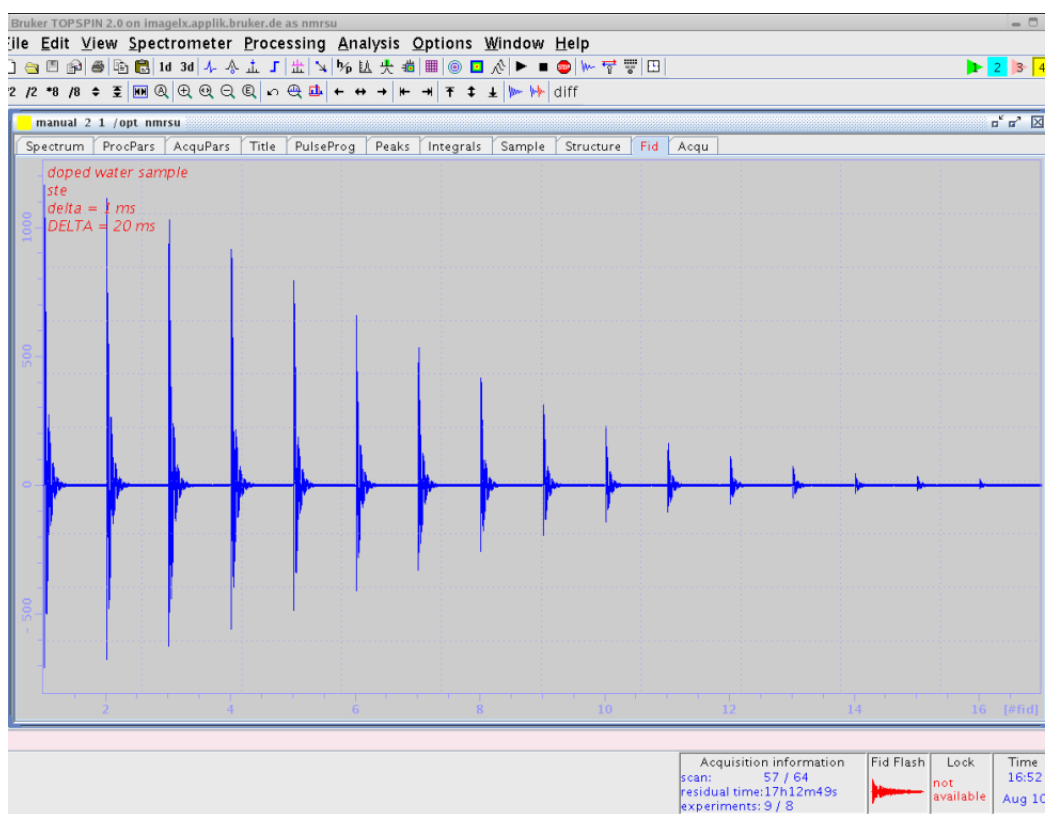

Figure 3.5 Echo Decay Caused by Growing Diffusion Gradients
2. After the acquisition is finished you can display the data as shown in Figure 3.5 by clicking the “FID” tab in the TopSpin data window.